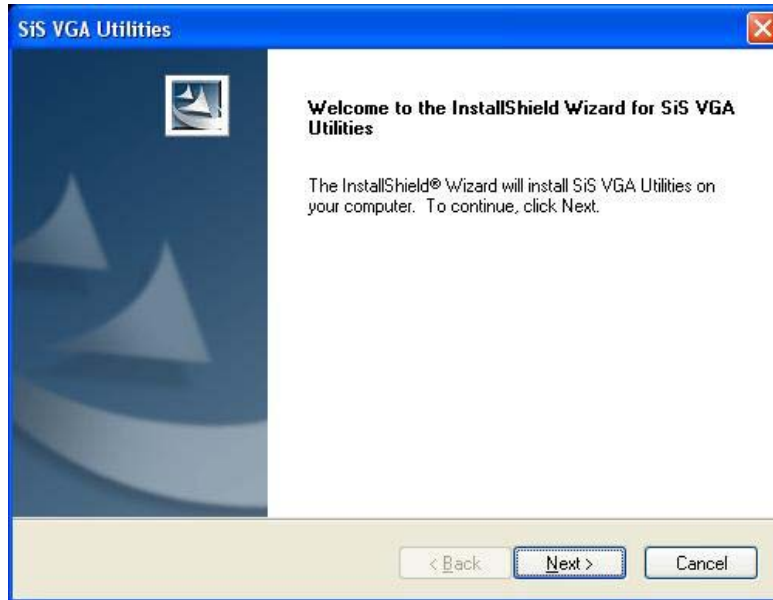

Figure 6-13: VGA Utilities Welcome Screen
Step 2: Once you double click the **setup** icon, a welcome screen shown in **Figure 6-13** appears.